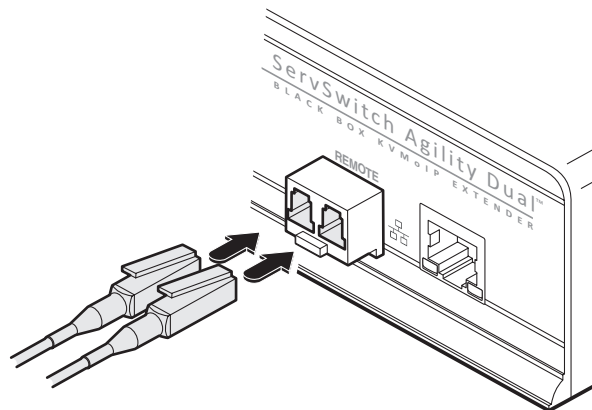

Figure 3-15. Connect the transmit and receive fiber links to the module.
- 2 Connect the transmit and receive fiber links to the fiber module and close the latch over the link connectors to lock them into place. See Figure 3-15.